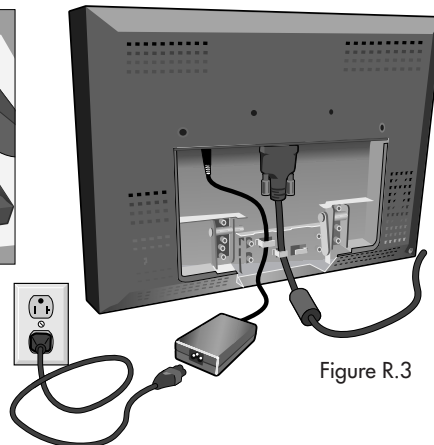

Figure R.3
5. Connect the AC Adapter cord to the back of the monitor marked "DC in" (Figure R.3).